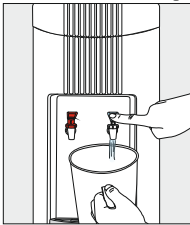
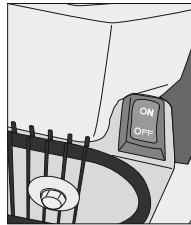
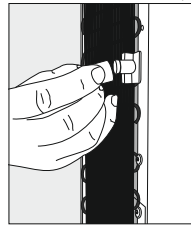
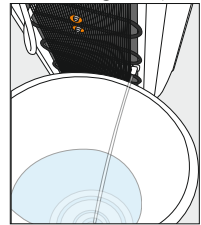

Figure 10
Figure 11
Figure 12
Figure 13
5.3 Use a bucket to drain water from the cold water reservoir through faucets (Figure 10). On Hot & Cold models, turn off hot tank switch as above (Figure 11). Allow 1 hour for the hot water to cool down inside the hot water tank. Remove the drain plug at the rear of the cooler to drain into a container (Figure 12 and Figure 13).